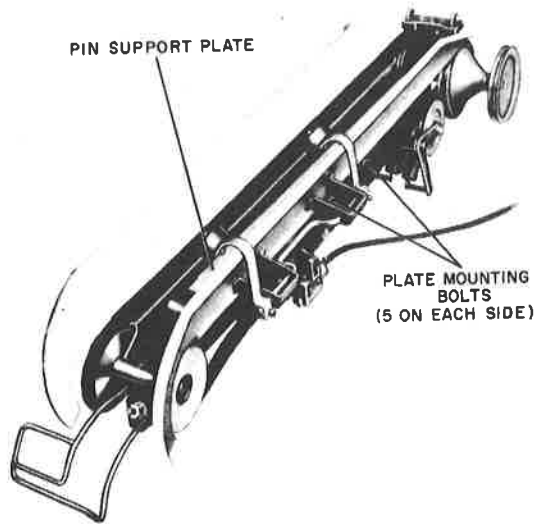

Figure 86. Cross Conveyor Adjustment
33. CROSS CONVEYOR PIN PLATE ADJUSTMENT. (FIGURE 86)